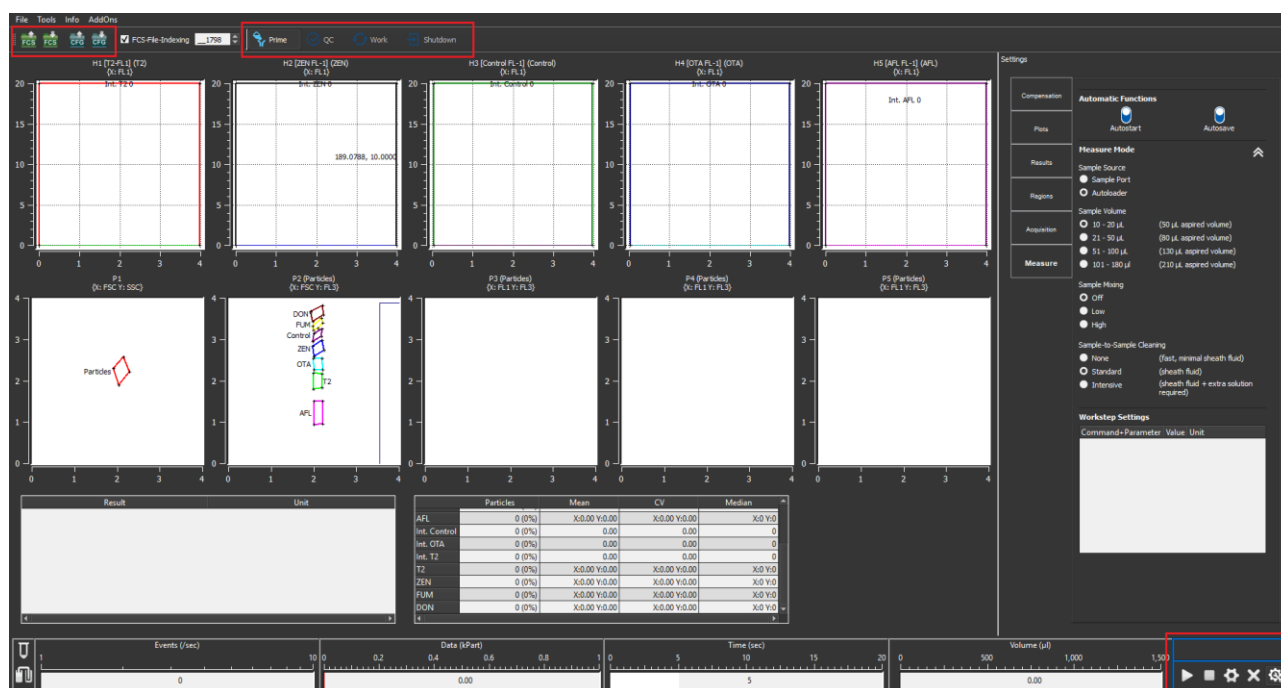
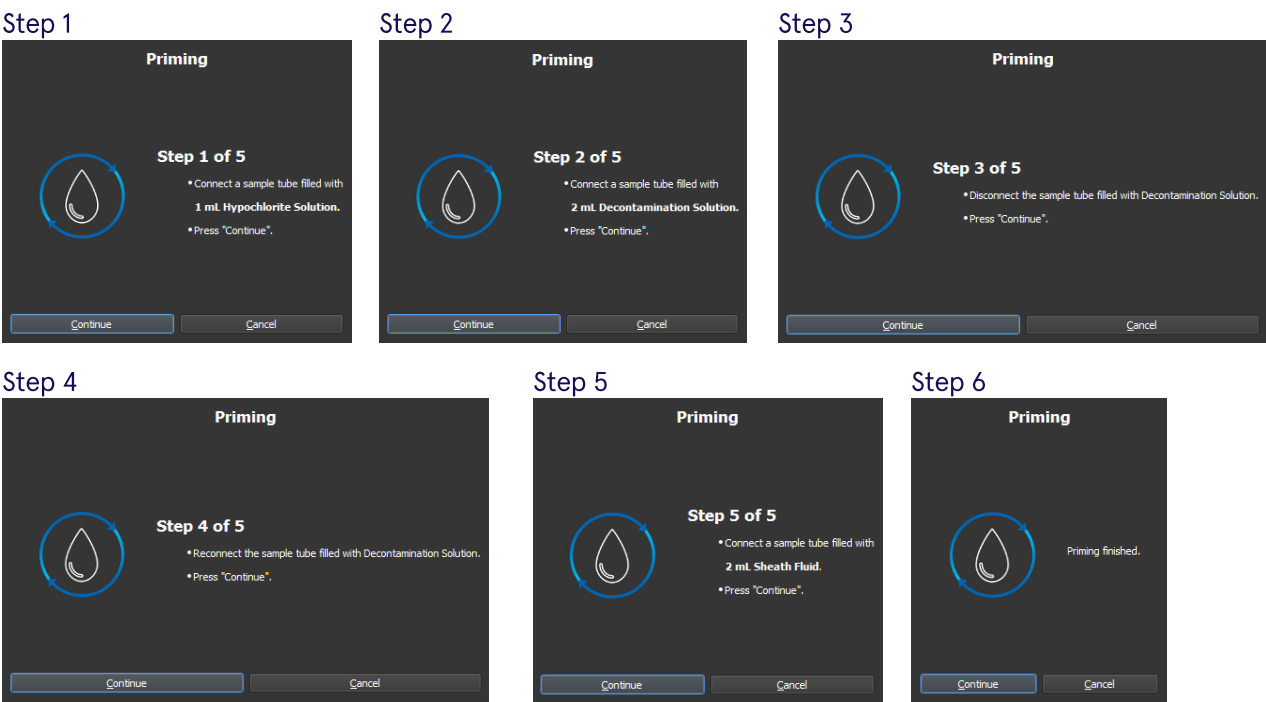

Figure 2. Location of the *Prime* programme, *settings* and *Start* button
Figure 3. Steps of the Prime Programme
7. To do this, click on Prime  in the main bar and then on Start  (see Figure 2) and follow the instructions through the Prime programme (see Figure 3).